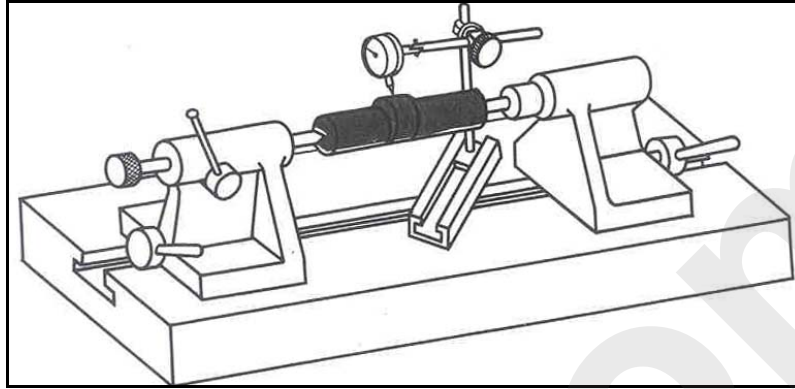

Figure 19 – Checking the eccentricity of the workpiece.
4. If necessary, check the eccentricity of the workpiece, using a comparator and by rotating the piece slowly (by hand) after it is fixed between the tips (see Figure 19).